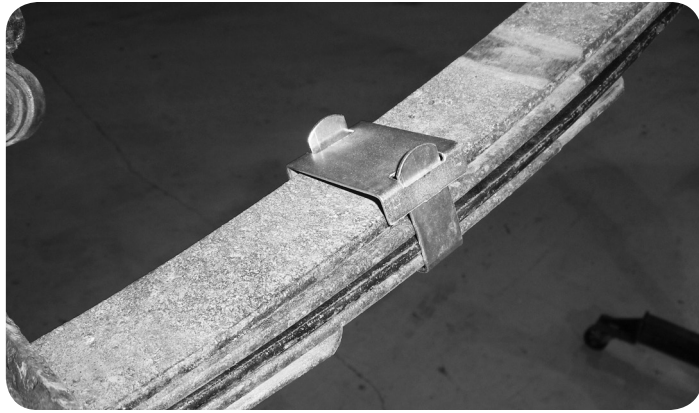

Figure 9
42. Remove the C-clamps from the leaf pack and ensure the individual leaves are all inline with each other. Install the provided bend-over style clamps on the leaf pack **Figure 9**. Install one clamp on each side of the center pin about 12" from the center pin. Bend the ends of the clamps over to secure them to the spring.